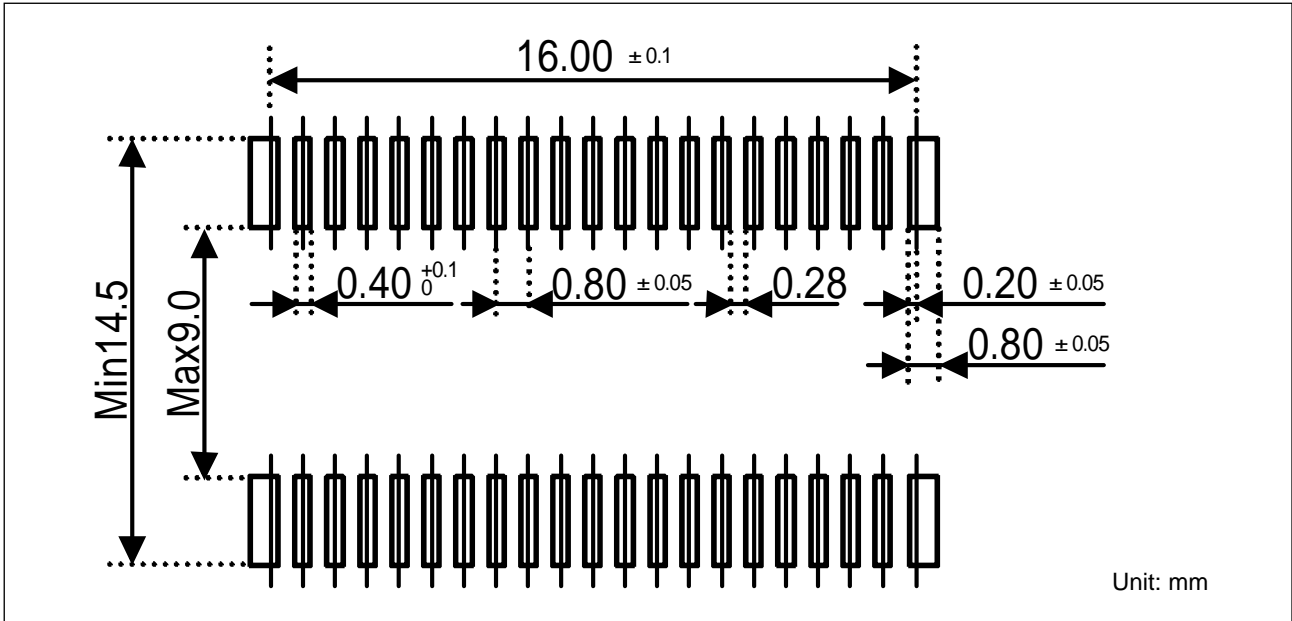

Figure 5 Dimensions of the target foot pattern (Quoted from the specifications of IC socket for SSOP by Matsushita Electric Works, Ltd.)
7. Target Foot Pattern (See Figure 5)